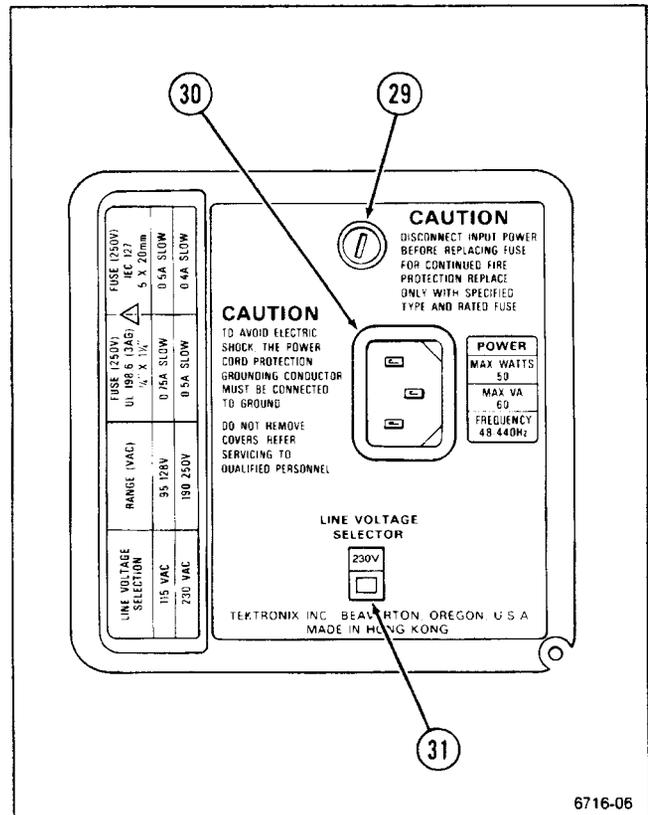

Figure 2-3. Rear Panel.
Refer to Figure 2-3 for items 29 through 31.
- ②⑨ **Fuse Holder**—Contains the ac-power-source fuse. See the rear-panel nomenclature for fuse rating and line-voltage range.
- ③⑩ **Detachable-Power-Cord Receptacle**—Provides the connection point for the ac-power source to the instrument.
- ③① **Line Voltage Selector Switch**—Selects the line voltage operating range of either 115 Vac or 230 Vac.